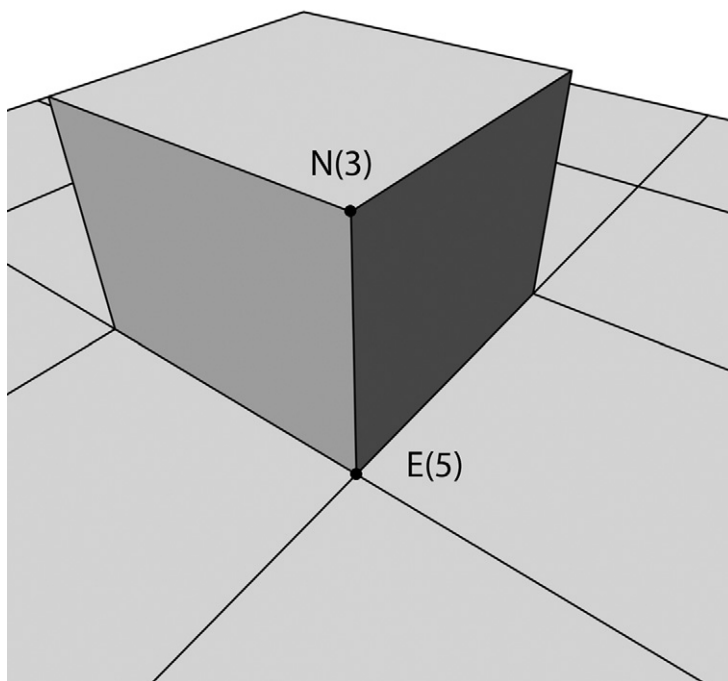

Figure 5.6 An E(5) pole and an N(3) pole.
cause the mesh to deform in a way that you don't want when you pose the model. Though you can minimize their occurrence, poles are unavoidable when you are modeling anything with detail, most like human faces. There are two common types of poles that appear as you shape your model: the E(5) pole and the N(3) pole (Figure 5.6).